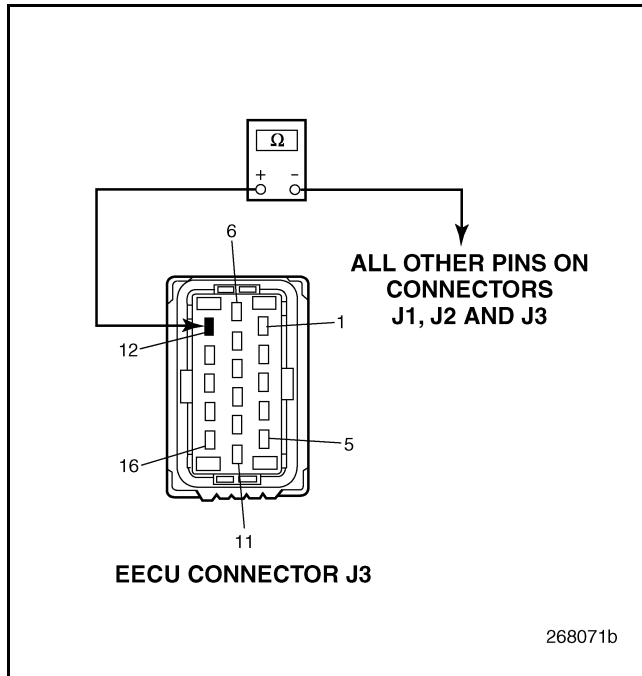

Figure 783
4. Check for continuity between the EECU harness connector J3 pin 12 all other pins on EECU connectors J1, J2 and J3 (see Figure 783).